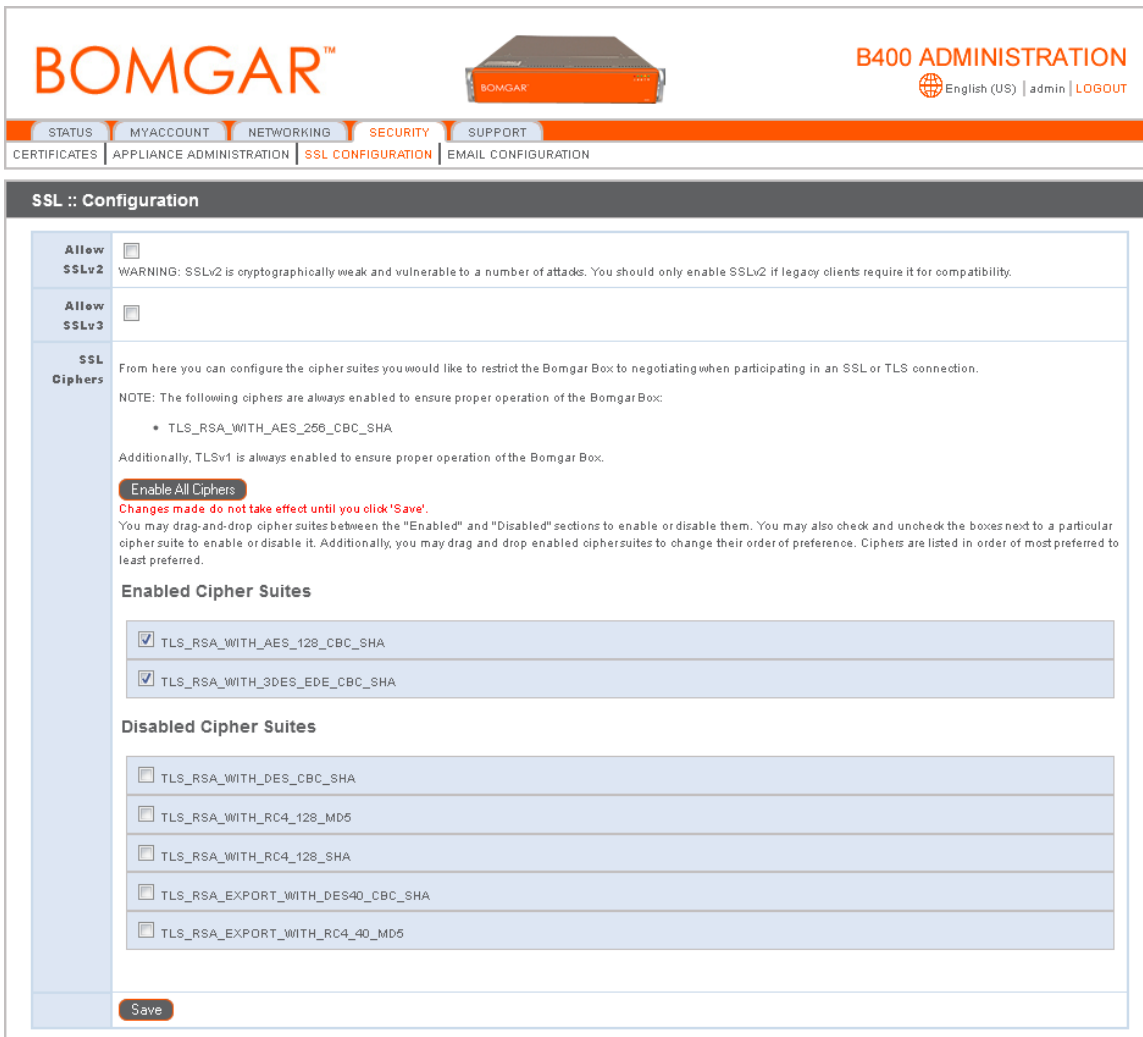

Figure 9 – SSL Configuration Page
Once all necessary initialization procedures have been performed as described in the preceding sections, the module needs to be configured to comply with FIPS 140-2 requirements. Once configured as described in this section, the module will be considered to be in FIPS-Approved mode, which can be verified at any time by viewing the SSL Configuration page and ensuring it matches Figure 9.
5. Navigate to the **SSL Configuration** page under the **Security** tab (see Figure 9 below).